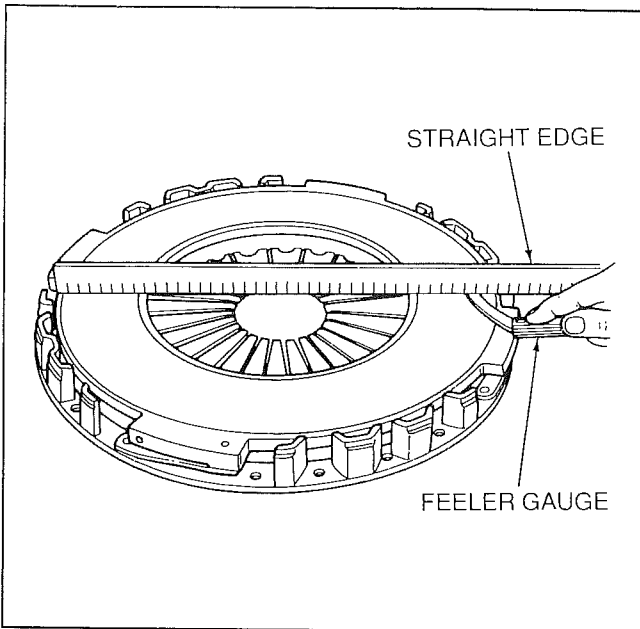

Figure 9-2. Checking Pressure Plate for Wear and Warpage
1. Inspect the pressure plate friction surface for wear by placing a straight edge across the width of the friction face (Fig. 9-2). A gap in the worn area of 0.030-inch (0.75 mm) or more indicates the PPCA should be replaced.